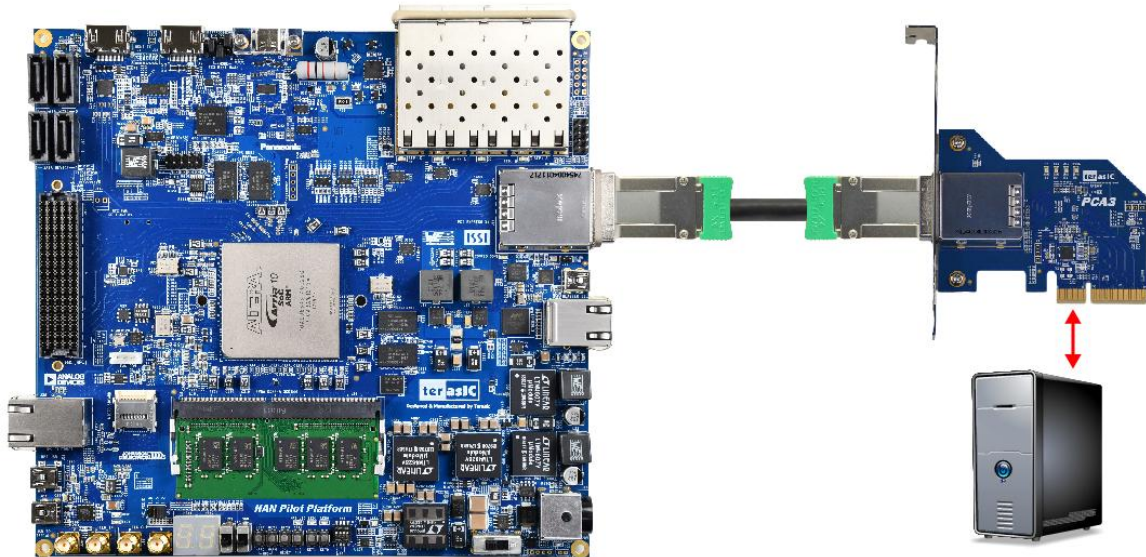

Figure 6-13 FPGA board connect to PC
3. Install the FPGA board on your PC as shown in **Figure 6-13**.